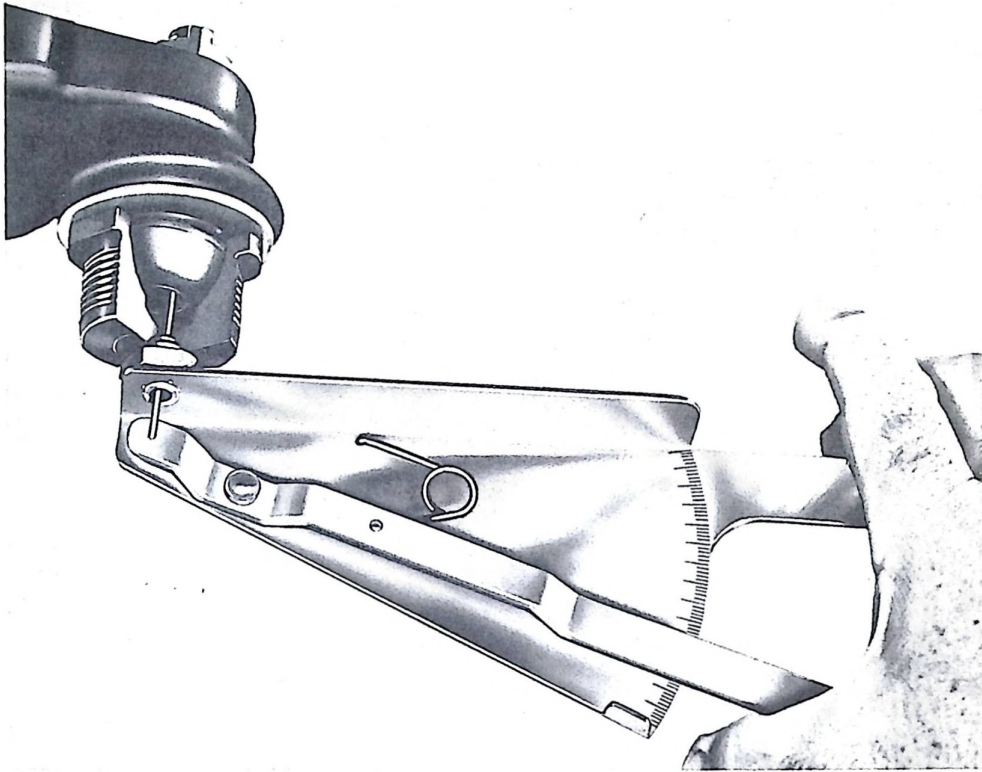

Figure 2
2. Remove the ball joint plug and screw the threaded fitting of the tool into the ball joint plug hole until it is firmly seated, see Figure 2.